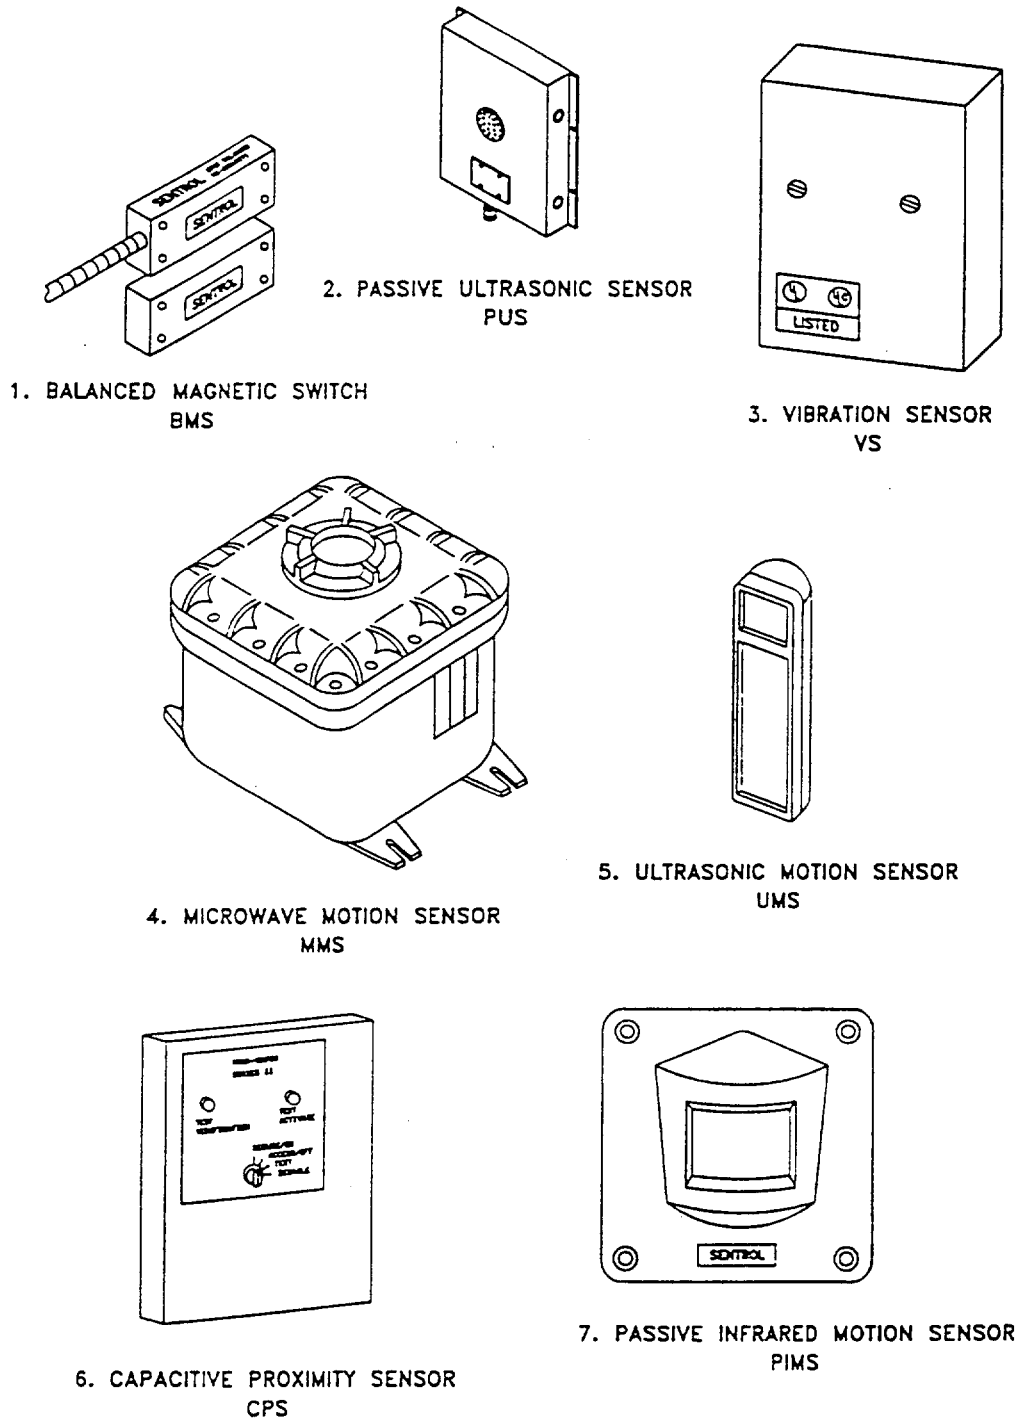

Figure 1-22. Sensor Devices (Interior)
**r. Sensor Devices (Interior) (See Figure 1-22.)**
**(1) Balanced Magnetic Switch (BMS) (standard and low profile).** The Balanced Magnetic Switch (BMS) detects the opening of doors, including roll up doors, and windows. The Balanced Magnetic Switch (BMS) will alarm when the separation between the magnet and switch assembly changes by  $0.80 \pm 0.40$  inches on any plane or when the local magnetic field has a positive or negative difference from the initial adjustment.
**(2) Passive Ultrasonic Sensor (PUS).** The Passive Ultrasonic Sensor (PUS) detects ultrasonic energy generated by drills and other intrusion tools during attempts to penetrate through the perimeter (walls, doors, window, ceilings) of the protected area.
**(3) Vibration Sensor (VS).** The Vibration Sensor (VS) detects vibrations generated during attempts to penetrate through the perimeter of the protected area.
**(4) Microwave Motion Sensor (MMS).** The Microwave Motion Sensor (MMS) detects intruder motion within a protected area. It has a single antenna Doppler sensor operating at microwave frequencies.
**(5) Ultrasonic Motion Sensor (UMS).** The Ultrasonic Motion Sensor (UMS) detects intruder motion within a protected area. The sensor detects Doppler shifts in the ultrasonic signal generated by intruder motion.
**(6) Capacitance Proximity Sensor (CPS).** The Capacitance Proximity Sensor (CPS) can be used either as a penetration sensor or as a point sensor. The Capacitance Proximity Sensor (CPS) detects the change in capacitance between the connected object and ground resulting from the close approach or touch of an intruder. The Capacitance Proximity Sensor (CPS) has a field adjustable sensitivity control. The Capacitance Proximity Sensor (CPS) adjusts to slowly changing values of total capacitance caused by the environment without alarm.